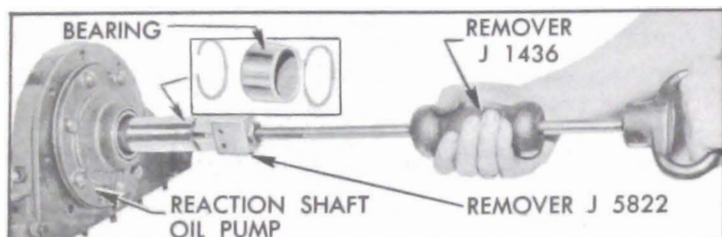

Figure 5-65—Removing Input Shaft Bearing
2. Inspect the input shaft bearing in front end of reaction shaft. If bearing is damaged or excessively worn, remove outer retaining ring and then remove the bearing, using Remover J 5822 installed on Remover J 1436. See figure 5-65. Oil pump must be in place to support the reaction flange during bearing removal.